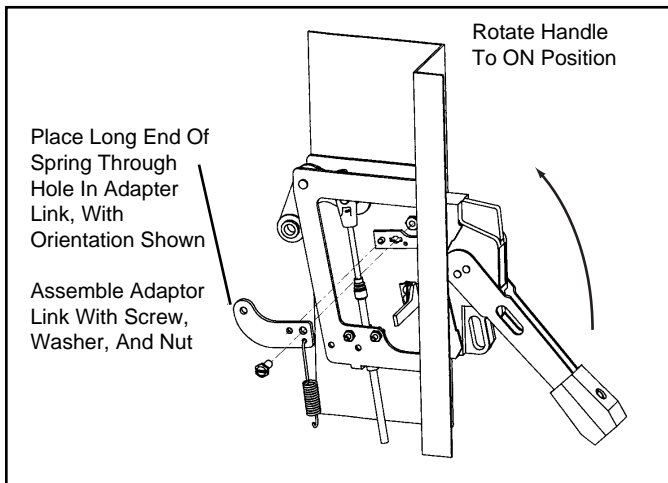

Figure 1-4 Assembly of Spring and Adapter Link to Actuator Link
4. Connect the long end of the spring through the adaptor link. See Figure 1-4 for spring orientation. Then attach adapter link to the actuator link using the .250-20 hex head screw.